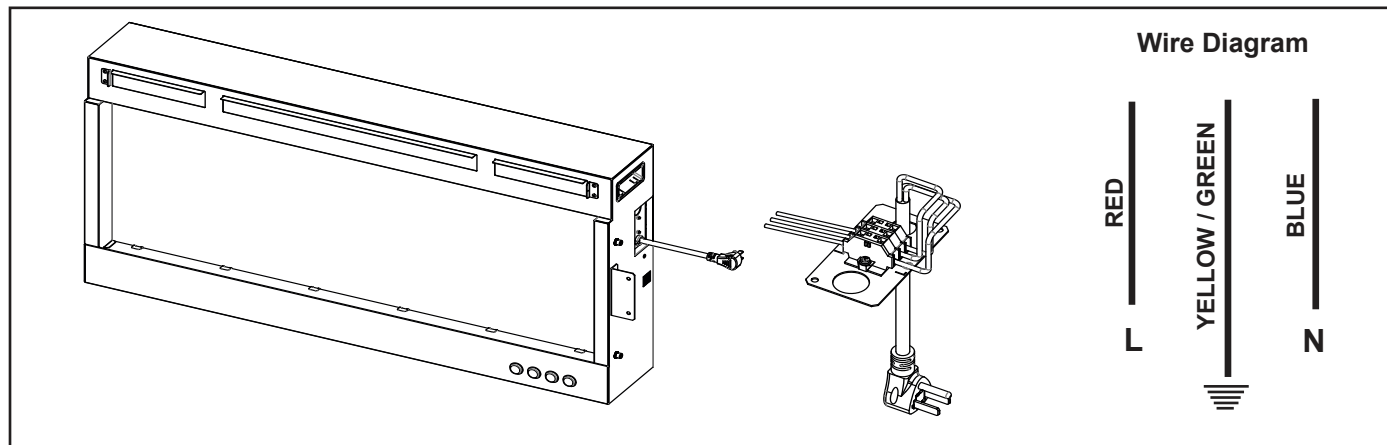

Figure 32. Optional Power Cord Assembly Installation
3. Connect the three appliance wires to the terminal block supplied with the power cord kit. See Figure 32.